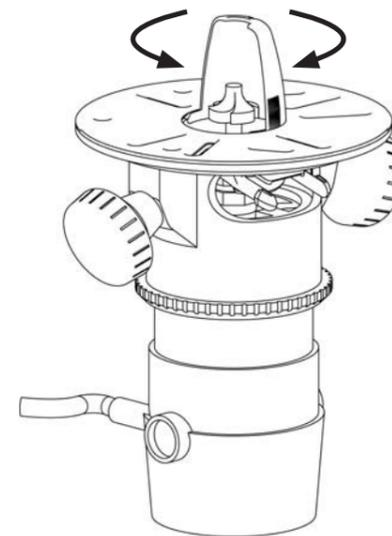

Fig. 6
7. Check to make sure the chip cover is seated properly by rotating it (Fig. 6).